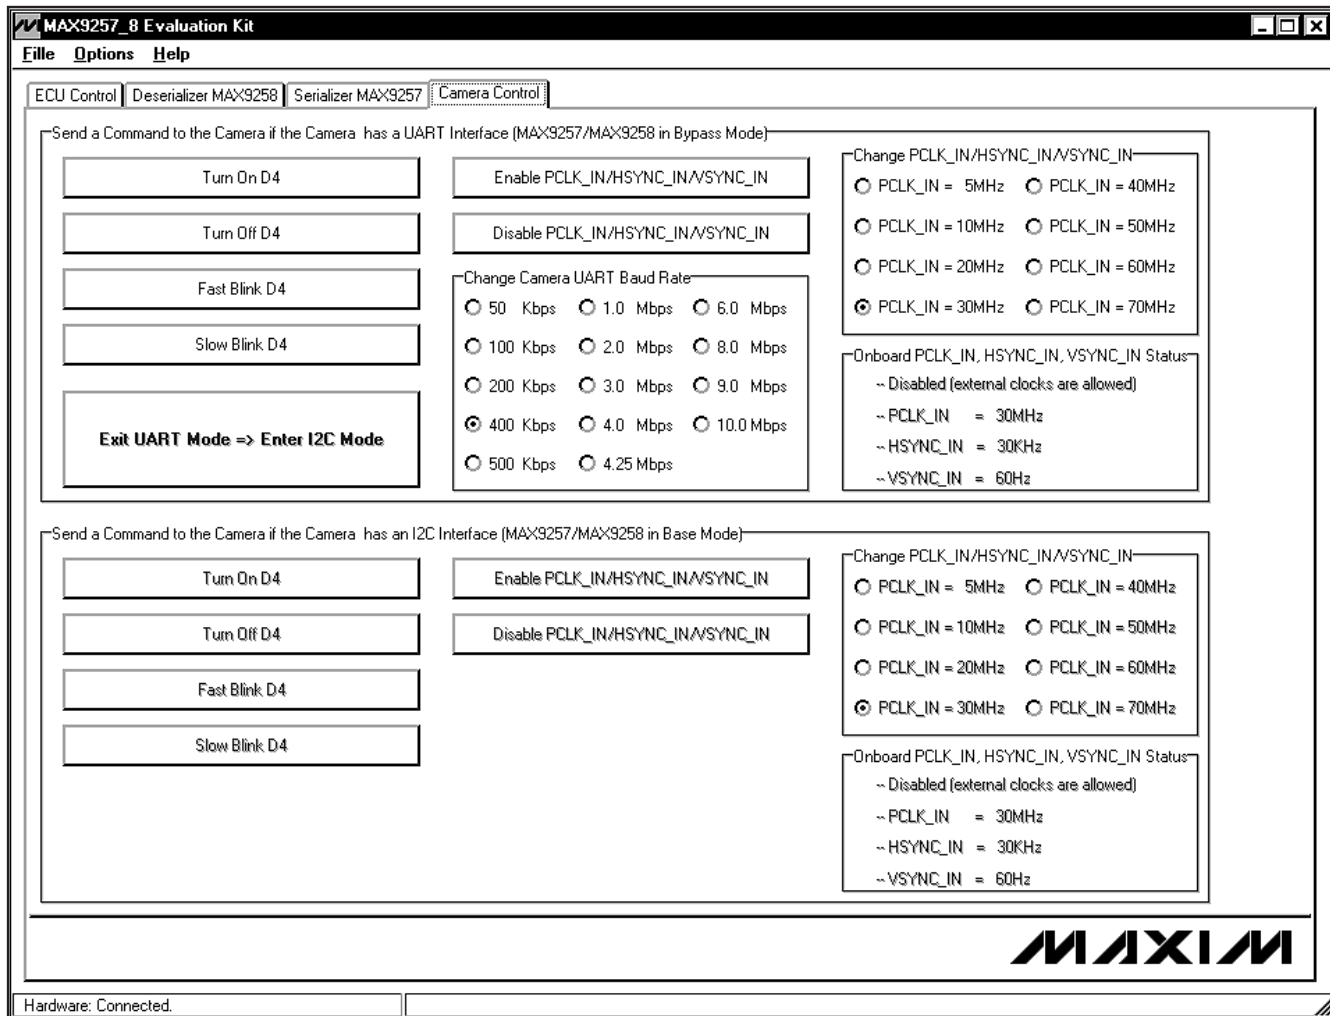

Figure 6. MAX9257/MAX9258 Evaluation Kit Software—Camera Control Tab
- 23) Click on the **Camera Control** tab to move to the **Camera Control** tab sheet (Figure 6).
On the **Camera Control** tab sheet (Figure 6), the ECU can communicate to the emulated camera during a control-channel session.
- 10) Navigate to the **Camera Control** tab sheet (Figure 6). Press the **Turn On D4**, **Turn Off D4**, **Fast Blink D4**, and **Slow Blink D4** buttons, respectively, to verify that the ECU is communicating to the camera properly.
- 11) Navigate to the **Camera Control** tab sheet (Figure 6). On this tab sheet, all ECU commands to the camera follow this order in one control-channel session:
- 6) Navigate to the **Camera Control** tab sheet (Figure 6) and press the **Exit UART Mode => Enter I2C Mode** button (this button is available only when CTO is not equal to 0).